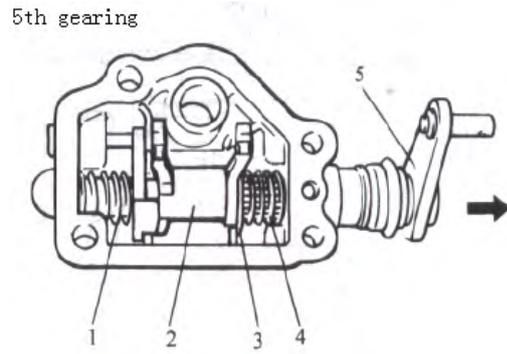

Fig 10-108
- (6) Pull out gear shift shaft from case. By pulling out gear shift shaft, No. 2 spring, gear shift lever, washer and No. 1 spring can be removed. (FIG.10-108)